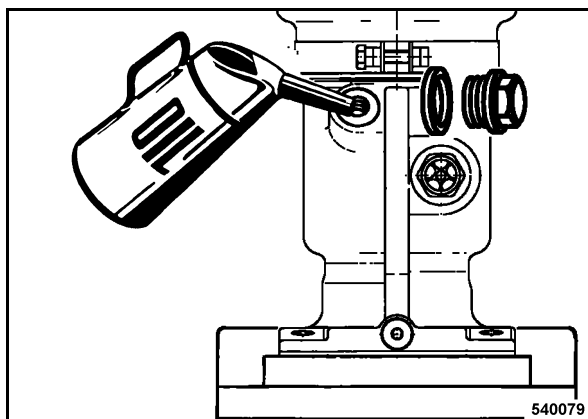

Fig. 62
- Clean the filler plug (Fig. 62) and unscrew it.